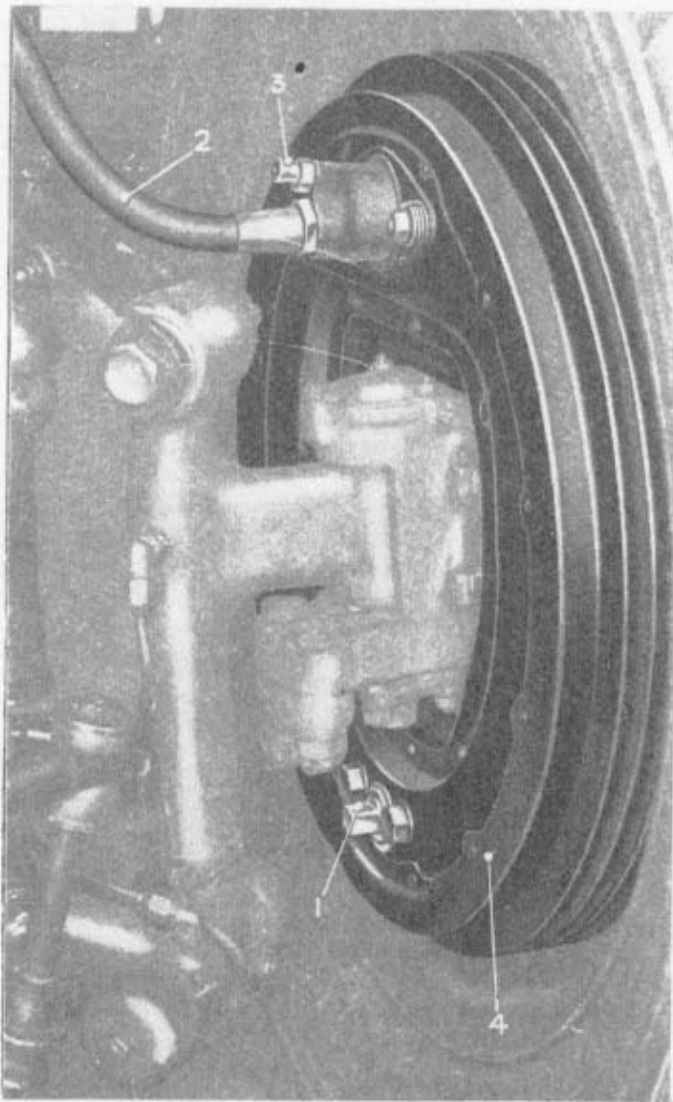
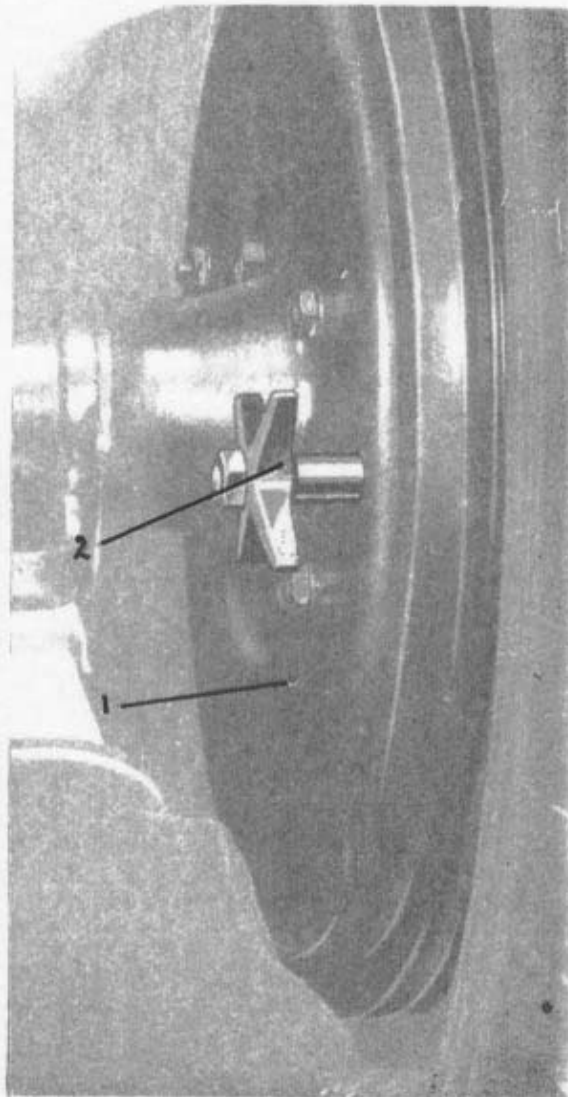
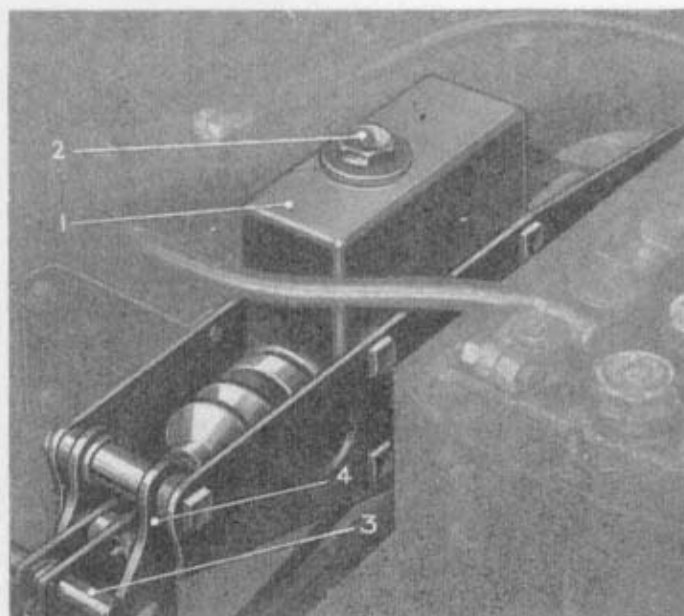

Fig. 16.—FRONT BRAKE ADJUSTMENT.
Fig. 17.—REAR BRAKE ADJUSTMENT.
Fig. 18.—THE HYDRAULIC MASTER CYLINDER AND RESERVOIR.
The method of adjustment is the same for both front and rear brakes, with the exception that a hand wheel is provided on the rear brake adjusters, while a  $\frac{1}{4}$ " B.S.F. open-ended spanner must be used on the squared end of the front brake adjusters. The rear adjusters (2, Fig. 17) are located forward of the axle tubes, and the front adjusters (1, Fig. 16) directly below the steering pivot pins.
1. Attach a clean rubber drain tube to one front brake bleeder screw (3, Fig. 16), and immerse the other end in a clean glass jar in which there is sufficient hydraulic brake fluid to submerge the end of the tube.
2. Release the bleeder screw (3) half to one turn.
3. Remove the filler plug (2, Fig. 18) and fill the reservoir integral with the master cylinder, with the recommended fluid. (See page 28.)
4. Push the joint forward until the extended pin (3) abuts against the master cylinder support brackets (4).